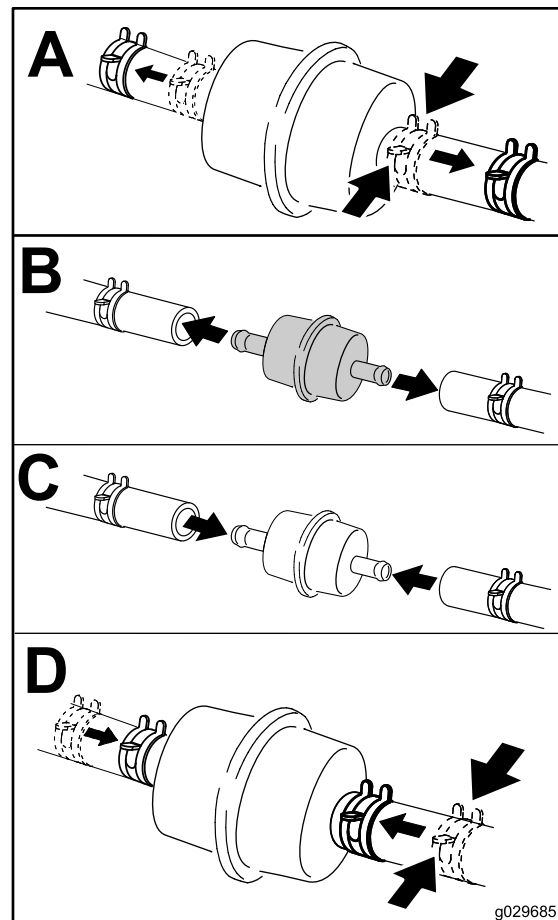

Figure 42
4. Place a clean container under the fuel filter and replace the fuel filter as shown in Figure 42.